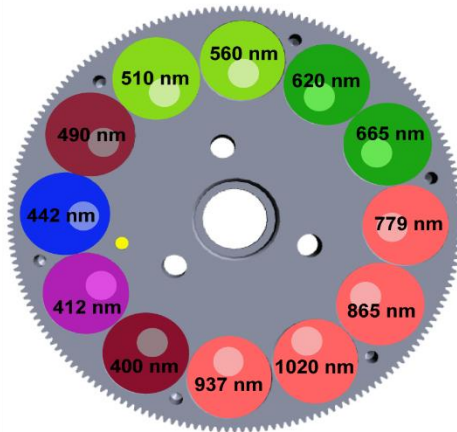

Figure 5: Ocean Color 12 filters (CE318-TV12-OC)
- **Ocean Color (OC) 12 filters / CE318-TV12-OC / SeaPRISM:** It uses 400, 412.5, 442.5, 490, 510, 560, 620, 665, 779, 865, 937, 1020 nm filters (Fig.5)